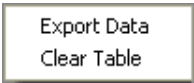

Figure B-12 Table options context menu
- ✓ To clear the table or export the data contained in the table, select the options in the context menu (figure B-12). To activate the context menu, right click on any area outside the table.